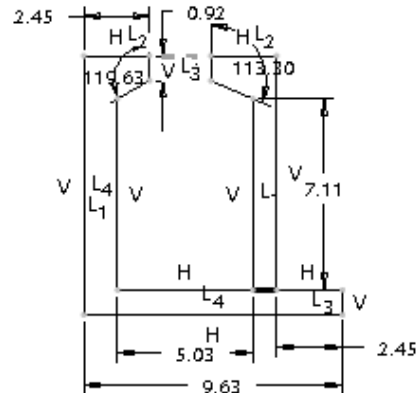

Figure 2-30 Sketch after dimensioning
- c. Dimension the required entities and then modify the dimensions of the sketch, refer to Figures 2-30 and 2-31.
8. Select the vertex that is joining lines C and D and the vertex that is joining lines J and K. Both the vertices are aligned horizontally, as shown in Figure 2-30.
Figure 2-30 shows the sketch after applying dimensions. If your sketch does not have all dimensions shown in this figure, apply them by using the **Normal** tool.